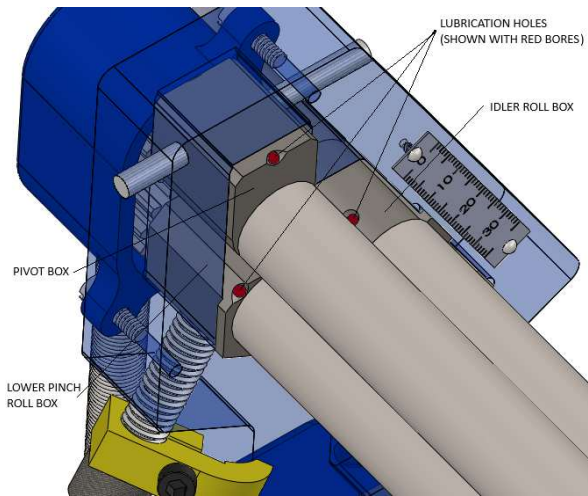

Figure 1: Oil port locations. Left side shown with transparent Side Frame. Right side is similar but has no Pivot Box.
- Lubricate the machine rolls via a few drops of machine oil in the lubrication holes in the Pivot Box, Lower Pinch Roll Boxes, and Idler Roll Boxes shown in Figure 1 per the Di-Acro Machine Lubrication Guide in this section.